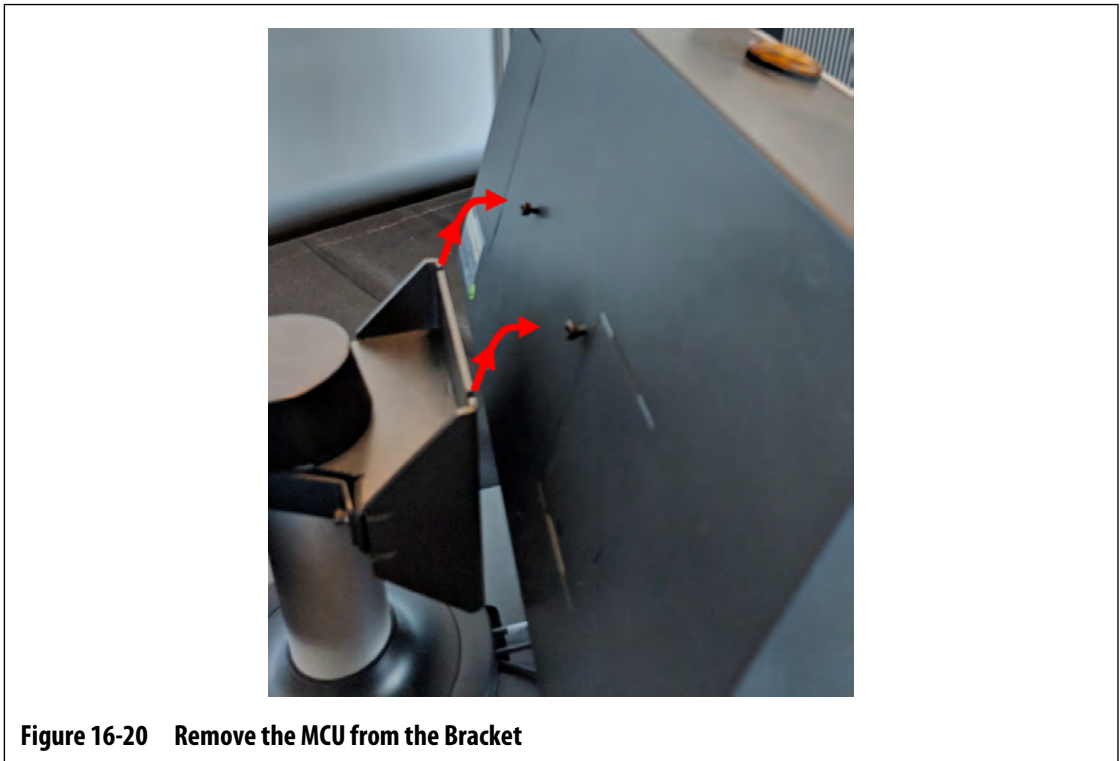

Figure 16-20 Remove the MCU from the Bracket
- Securely hold the MCU and slide it up until the screws have cleared the upper mounting slots and pull forward to remove the MCU from the mounting bracket. Refer to Figure 16-20.